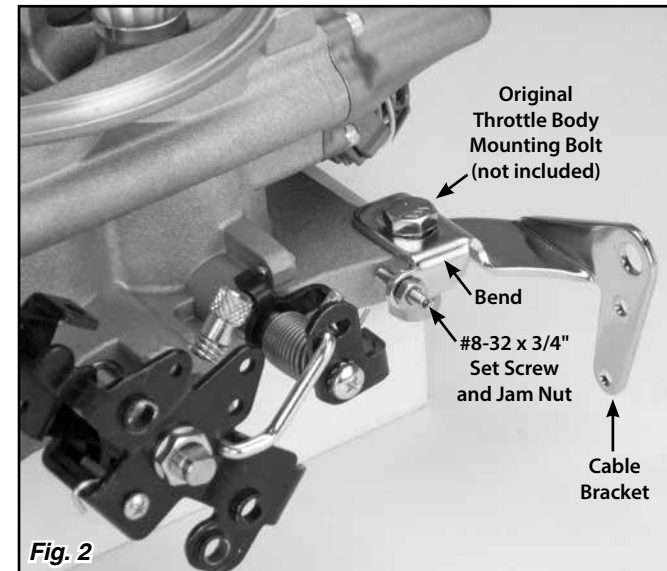

Fig. 2
Step 1: Remove the throttle body mounting bolt from the driver side rear corner of the throttle body, and position the Lokar Cable Bracket as shown in **Fig. 2**. Loosely re-install the original throttle body mounting bolt.
Step 2: Position the Lokar Cable Bracket so that the bend that is labeled in **Fig. 2** is parallel to the throttle body base front to back.